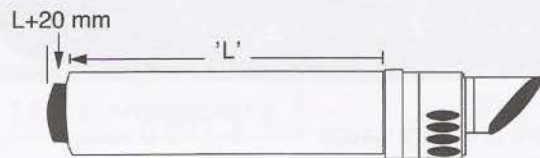

Figure 14
10.9 On installing the flue, determine the required length of the outer air duct by measuring the distance 'L' (Figure 14) from the face of the external wall to the back of boiler's elbow connecting collar. The measurement for the inner flue duct will be 'L' + 20mm
10.10 Measuring from the back of the terminal connection, mark distance 'L' onto the outer air duct. (figure 14)
10.12 Measuring from the back of the terminal connection, mark distance 'L' + 20mm (figure 14) onto the inner flue duct and cut the duct to size, ensuring that the cut is square and free from burrs.